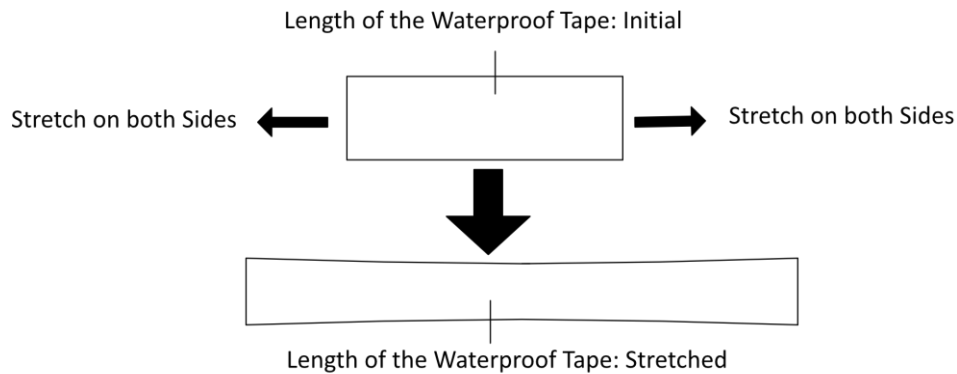

Figure 3-1 Stretch Waterproof Tape
Step 2 Stretch the waterproof tape to both ends to about 2 times the initial length, as shown in Figure 3-1.